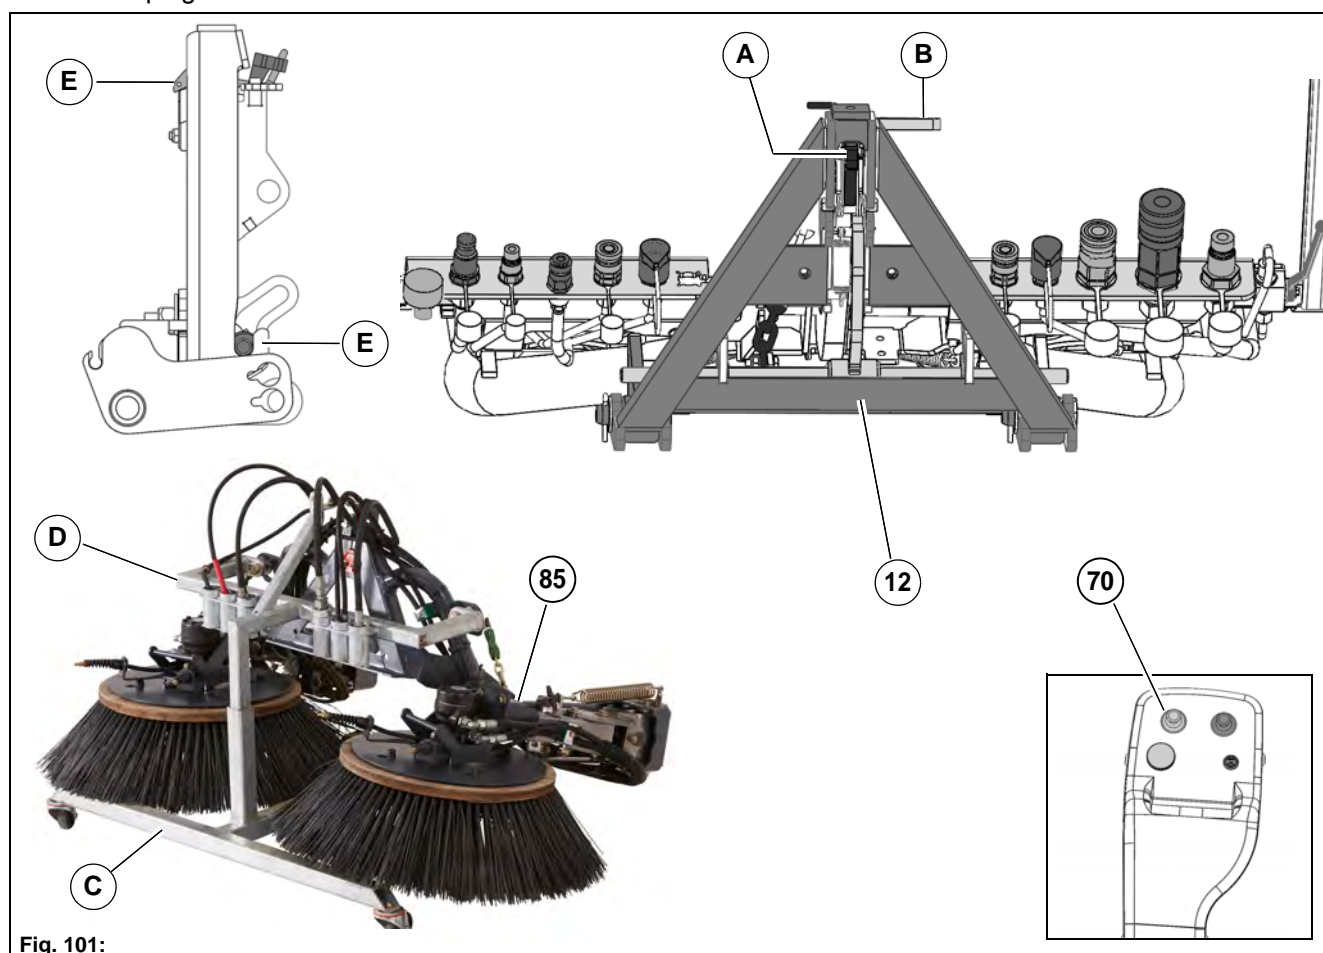

Fig. 101:
1. Unlock the locking hook **Fig. 101-A** and locking rod **Fig. 101-B** on the front tool carrier **Fig. 101-12**. Lower the front tool carrier with the joystick **Fig. 101-70**.
2. With the trolley **Fig. 101-C** (optional), align the sweeping unit **Fig. 101-85** centrally and in alignment with the front tool carrier.
5. Lock the sweeping unit with the locking hook and locking rod. Check the backlash on the locking hook, see **Fig. 101-E**, adjust if necessary with elongated holes.
6. Push down the upper part **Fig. 101-D** of the trolley and pull it out from the sweeping unit.